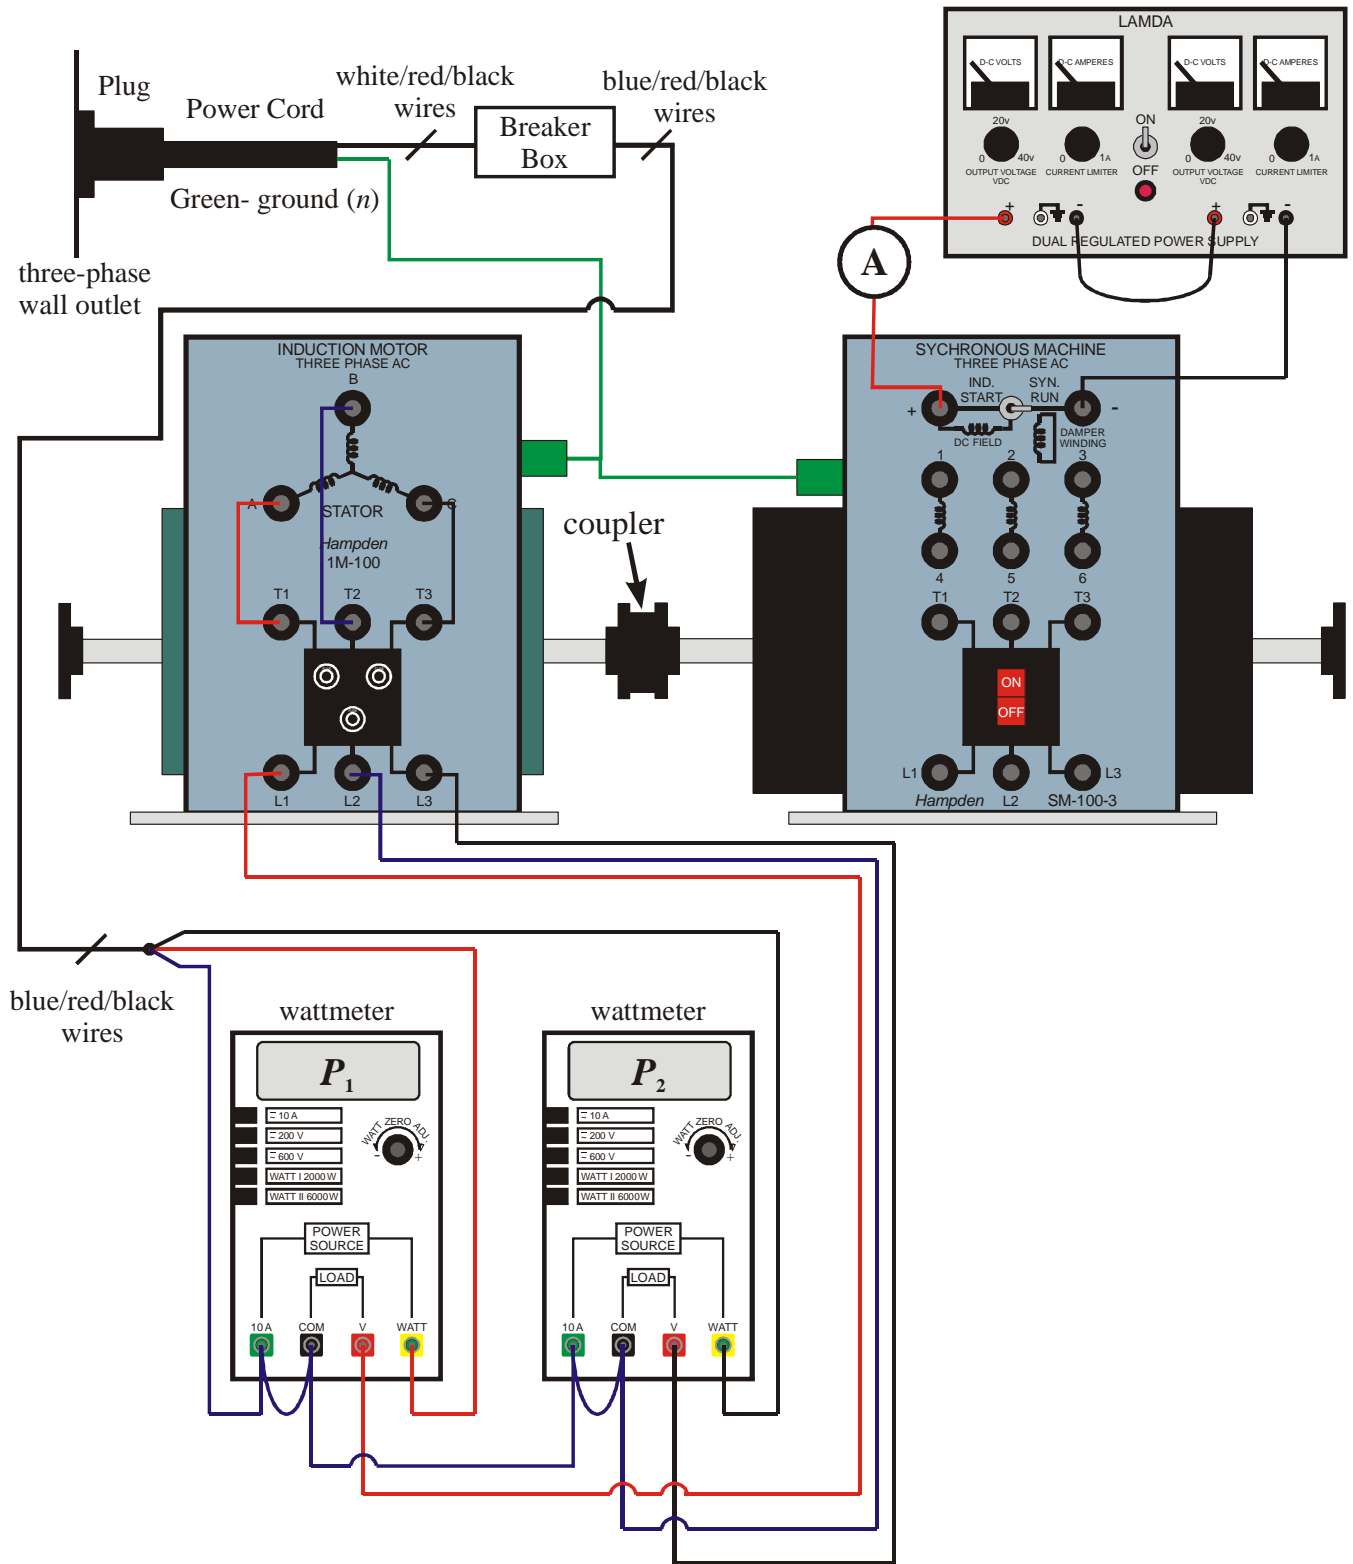
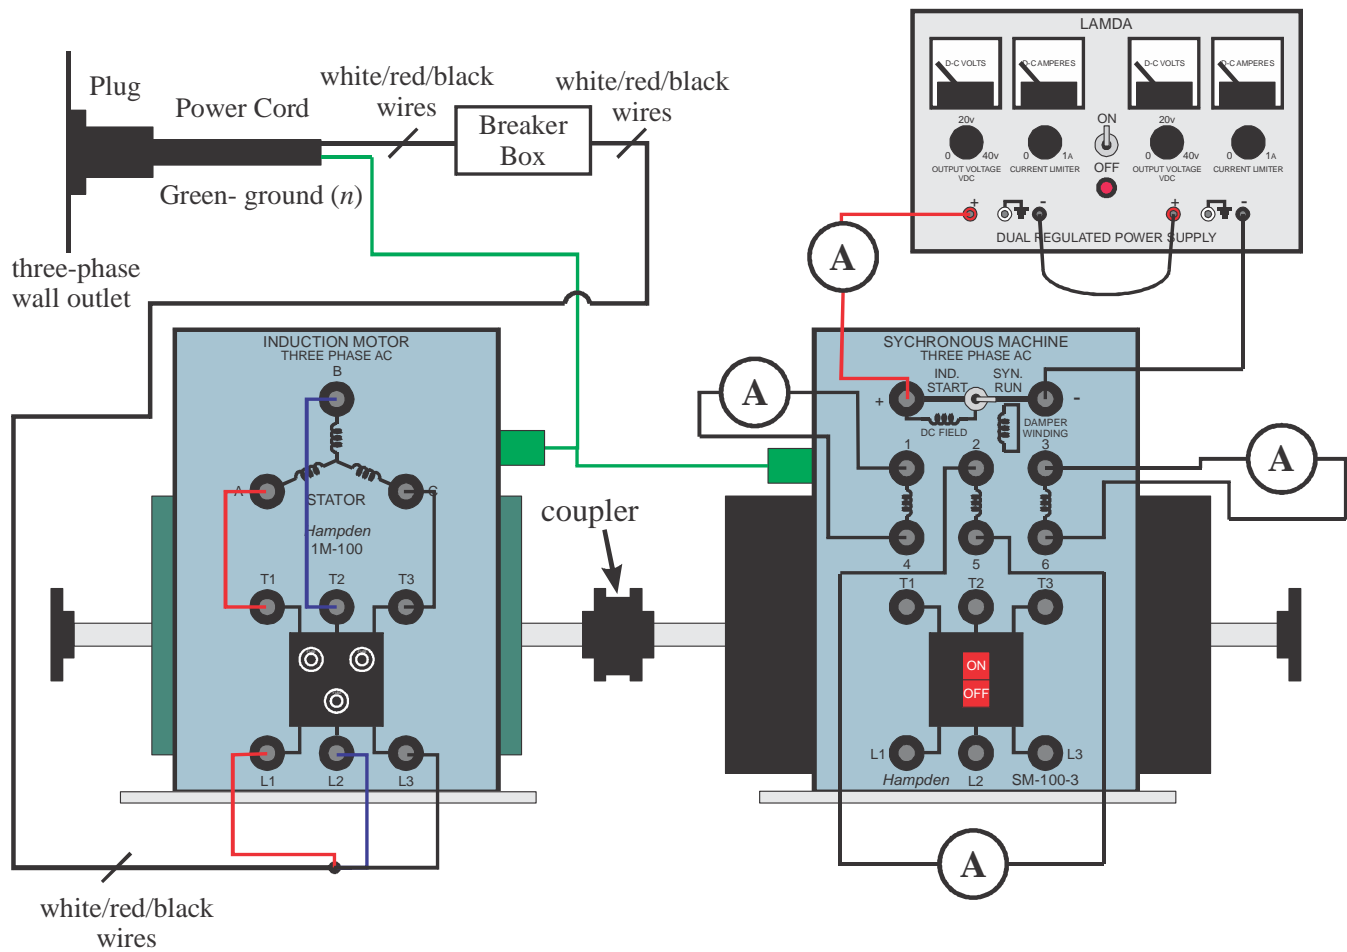

Figure 1 Set-up for open circuit test (Experiment 1).
Figure 2 Set-up for short circuit test (Experiment 2).
- 3) Connect the synchronous generator and induction motor (prime mover) as shown in Figure 1, leaving the coupler off/out (i.e., do not want the synchronous generator spinning yet). Ensure that the three-phase breaker and dc power supply are off.
- 4) Turn on the three-phase breaker to start the induction motor (dc power supply is off). Measure the total electrical power P_{motor} supplied to the unloaded induction motor using the powers P_1 and P_2 measured by the two wattmeters (shown in Figure 1). Turn off the three-phase breaker.
- 5) Next, complete the set-up shown in Figure 1 by inserting the coupler (i.e., want the synchronous generator spinning with dc power supply off). Turn on the three-phase breaker to start the induction motor. If necessary, adjust the position(s) of the synchronous generator/induction motor so they both turn smoothly. Measure the total electrical power $P_{\text{motor+sync}}$ supplied to the loaded induction motor using the powers P_1 and P_2 measured by the two wattmeters. Repeat with $I_{f, \text{rated}}$ applied to the synchronous generator to measure $P_{\text{motor+sync}_I f}$.
- 6) Perform an open circuit test on the synchronous generator. Start by adjusting both voltage knobs to zero (all the way CCW) on the dc power supply and adjusting the current limit knobs to maximum (all the way CW). Turn on the dc power supply. In a table, measure and record the field current I_f (A), electrical frequency f_e (Hz), mechanical rotation velocity n_m (RPM), and the three open-circuit armature voltages V_{A1} (terminals 1 & 4), V_{A2} (terminals 2 & 5), and V_{A3} (terminals 3 & 6). Next increase the dc power supply voltage (try to keep both sides roughly balanced), and repeat the measurements for $I_f \approx 0.1, 0.2, 0.3, 0.35, 0.4, 0.45, 0.5, 0.55, \text{ and } 0.6$ A. Reduce the dc power supply voltages to zero and turn off the dc power supply, set the three-phase breaker to ‘off’, and unplug the power cord. Do NOT disconnect any other wires before reading next experiment.
- 1) Connect the synchronous generator and induction motor (prime mover) as shown in Figure 2. Note that the differences with Figure 1 are the removal of the wattmeters and the addition of three ammeters, one connected to each of the three armature windings.
- 2) Turn on the three-phase breaker to start the induction motor. If necessary, adjust the position of the synchronous generator so they both turn smoothly. Perform a short circuit test on the synchronous generator. Start by adjusting both voltage knobs to zero (all the way CCW) on the dc power supply and adjusting the current limit knobs to maximum (all the way CW). Turn on the dc power supply. In a table, measure and record the field current I_f (A), electrical frequency f_e (Hz), mechanical rotation velocity n_m (RPM), and the three short-circuit armature currents I_{A1} , I_{A2} , and I_{A3} (A_{rms}). Next, increase the dc power supply voltage (try to keep both sides roughly balanced), and repeat the measurements for $I_f \approx 0.1, 0.2, 0.3, 0.35, 0.4, 0.45, 0.5, 0.55,$ and 0.6 A.